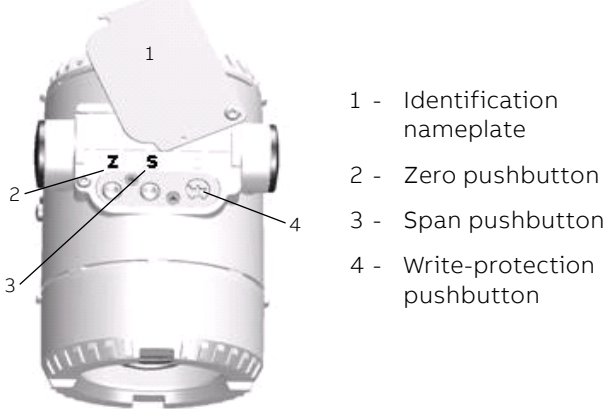

Figure 17: Pushbutton functionalities
- Remove the identification plate (see figure 17) by releasing the holding screw lying on the bottom left corner.